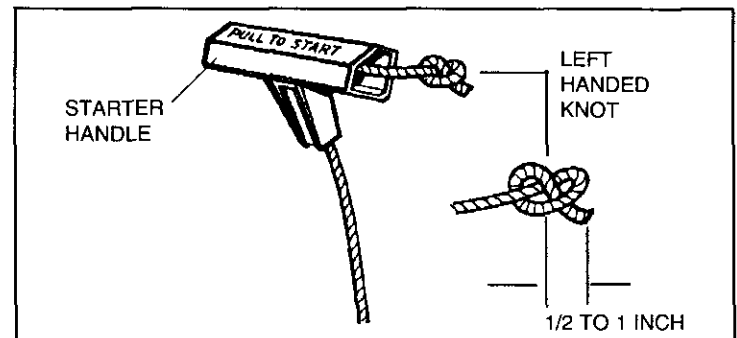

Figure 4
- Feed starter rope through starter handle (see Figure 4) and tie a left hand knot, leaving 1/2 inch to 1 inch of starter rope extending beyond left hand knot. **DO NOT PULL LEFT HAND KNOT INTO STARTER HANDLE YET.**